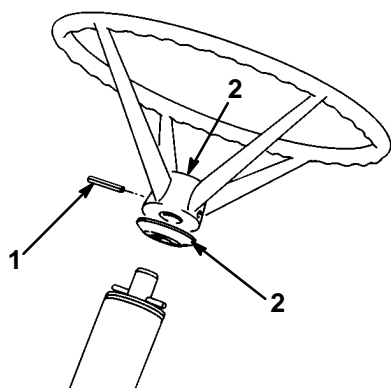

Figure 1
2. Slip spacer onto steering shaft until groove in spacer fits over roll pin in shaft (Fig. 1).
3. Slip steering wheel over shaft and line the steering wheel mount hole with the shaft mounting hole (Fig. 1). Toro logo on steering wheel insert should be readable from operator's position.
5. Drive the roll pin in until it is flush with the outside of the wheel (Fig. 1).